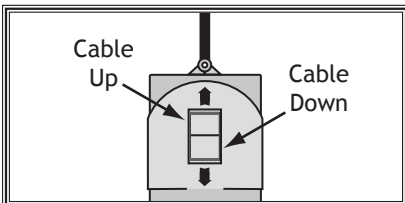

Figure 6. Hoist operation.
2. Grab the lift hook and pull it away from the hoist while using the control handle to lower the hoist cable a few feet by pressing the switch downward (see Figure 6).